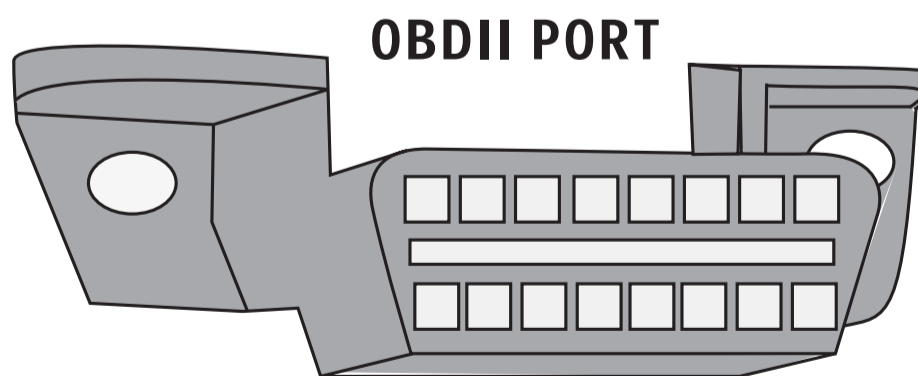

Figure 9
2. Locate the OBDII port underneath your dash. (Figure 9)